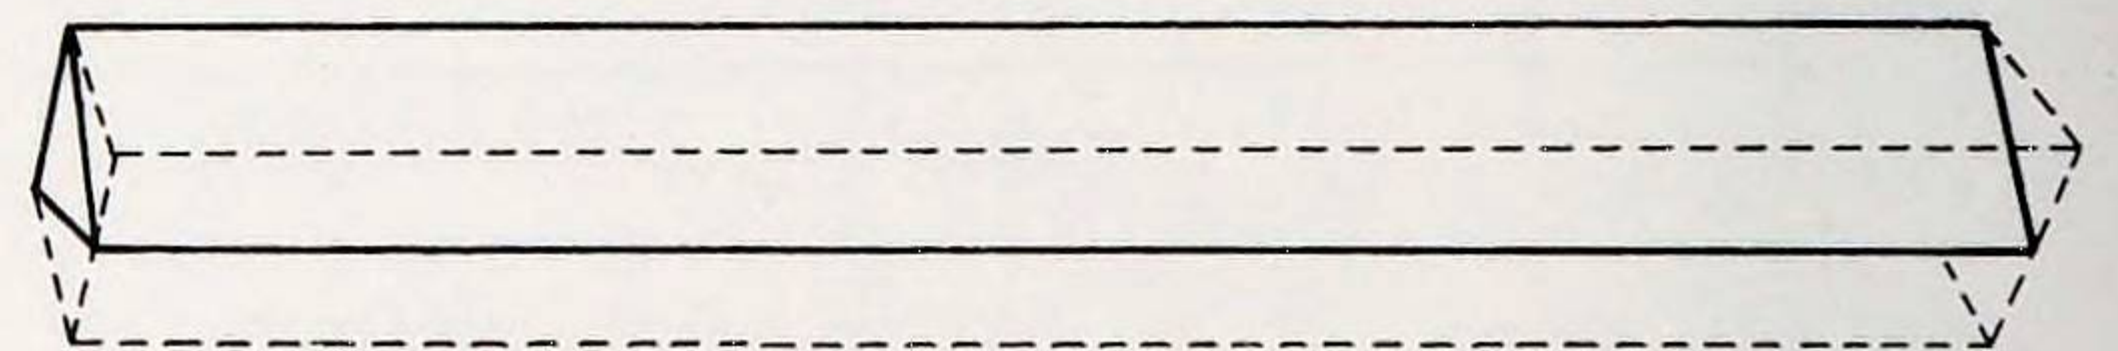

Fig. 3 Triangular front stile cut from a rectangular piece
3. With these three components dry-jointed, make the front stile, starting with a rectangular section and reducing this to a triangle (Fig. 3) by sawing and planing.